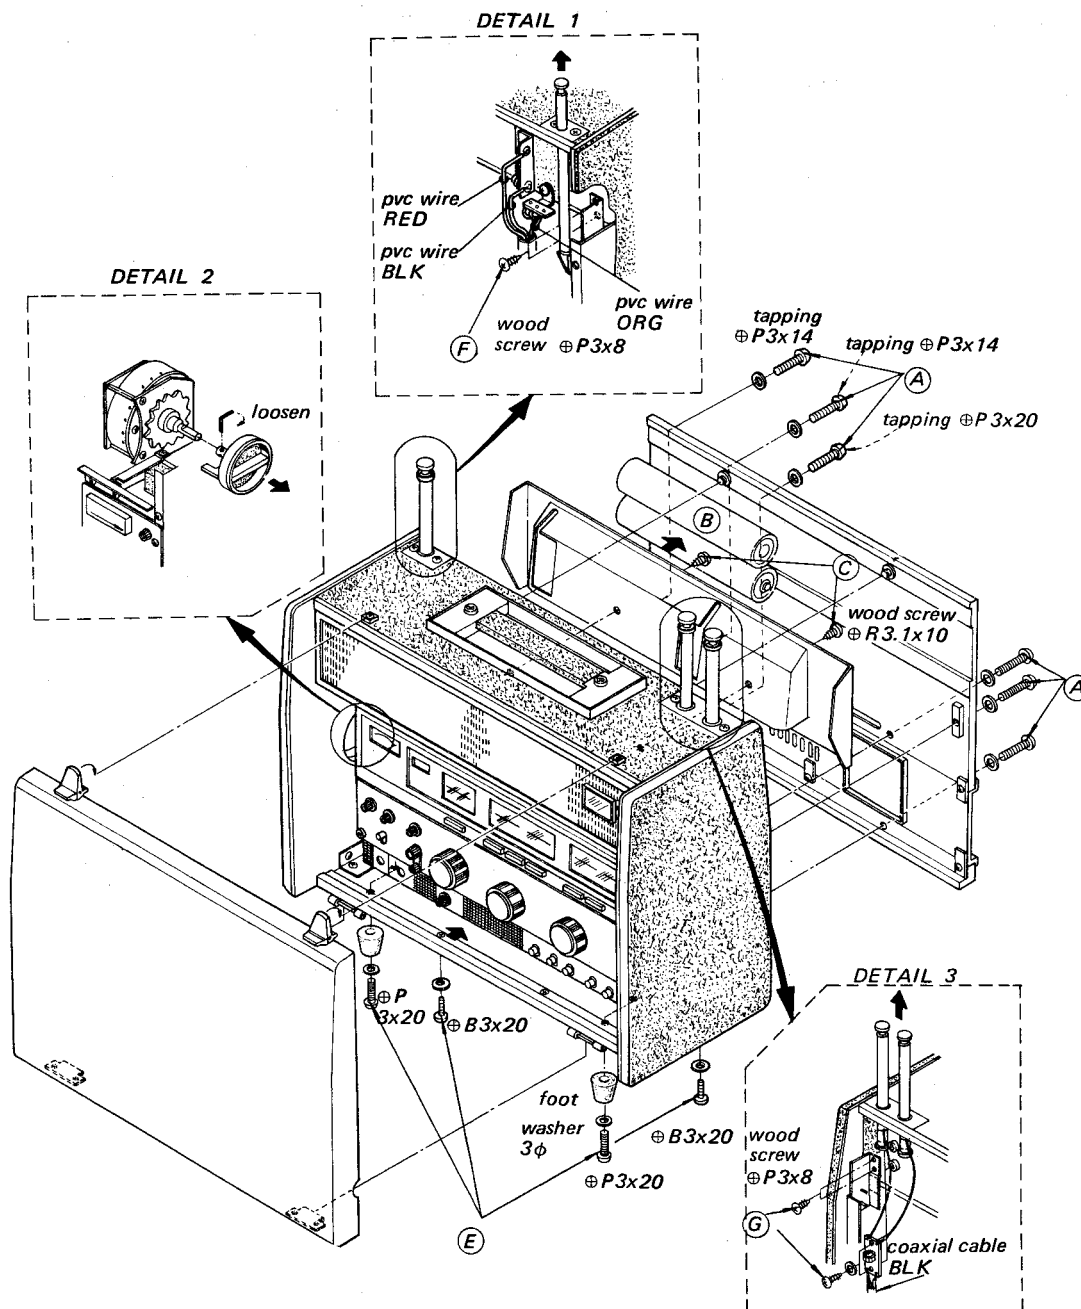

Fig. 2-1
1. Remove the six screws marked (A) in Fig. 2-1.
2. Remove the rear cover in the direction shown by the arrow (B).
3. Remove the two wood screws marked (C) in Fig. 2-1.
1. Remove the four screws marked (E) in Fig. 2-1.
3. Remove the six screws marked (F) and (G) in detail (1) and (3) of Fig. 2-1.
4. Unsolder the coaxial cable and the three lead wires shown in detail (1) and (3) of Fig. 2-1.
5. Loosen the three set screws fixing band selector knob shown in detail (2) of Fig. 2-1 and pull out the band selector knob.